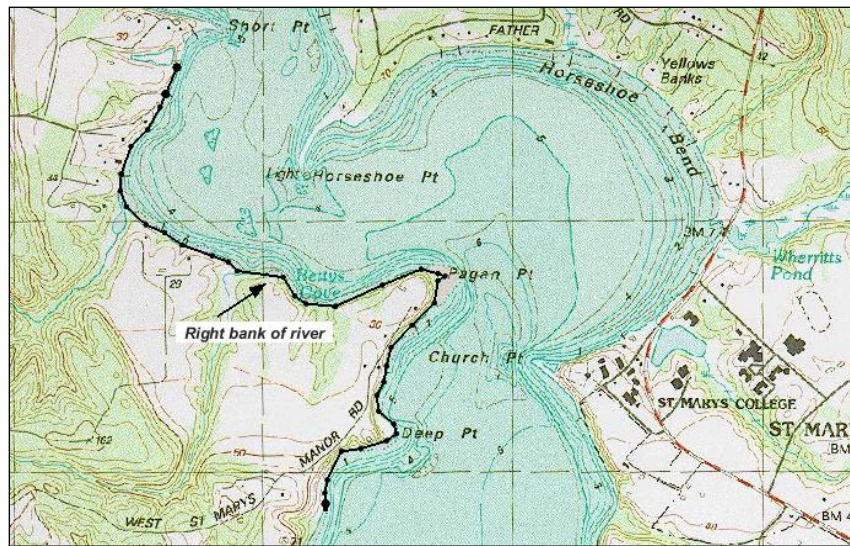

Figure 11 Creation of the first feature arc
3. Using the **Create Feature Arc**  tool from the dynamic toolbox, click out the right riverbank, as shown in Figure 11 (if necessary, use the **Zoom**  tool to get a closer view). (Note: the river flows from the top to the bottom, and the reference to the left bank is based on standing on location and looking in the direction of flow. In this instance, left and right will be opposite to what it is on the screen.) While creating the arc, if a mistake happens and there is a need to back up, press the *Backspace* key. If there is a need to abort the arc and start over, press the *Esc* key.